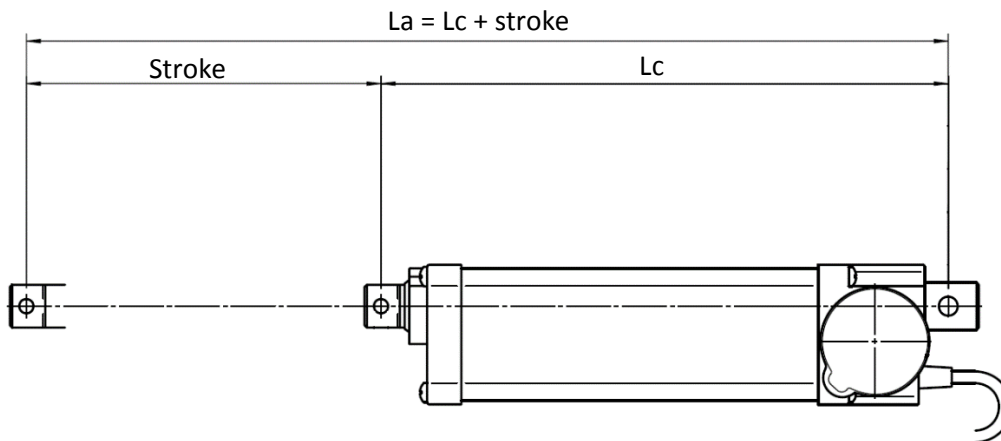

Figure 6.9 – "Lc" and "La" dimensions
- Check if the extreme dimensions of the actuator “Lc” and “La” (see Fig. 6.9) are compatible with extreme positions of the plant component that has to be moved.